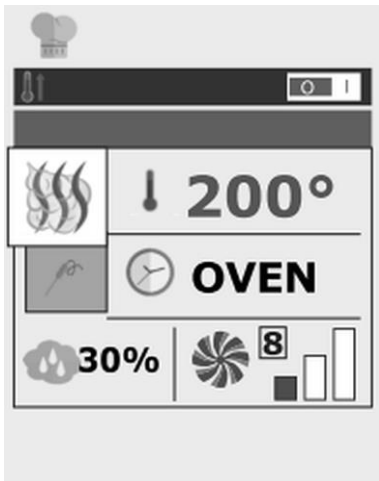

Fig. 14
1. To set the fan speed, press key 8 (Fig. 14) and select the desired setting.